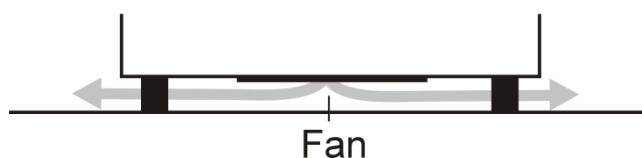

Fig. 2. Location of power supply fan ROXY Potentiostat.
**Do not block the fan located at the bottom of the potentiostat (Fig. 2.). Blocking the fan will impair the cooling capability of the power supply.**